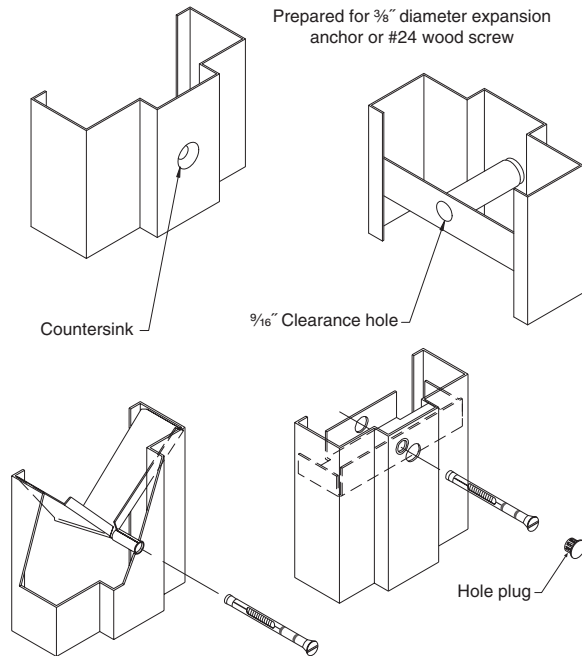

Figure 11 – Existing masonry or concrete wall anchors
6.3 Install snap-in anchors (see Figure 11) and tap with a hammer to align with pierced holes in jambs.